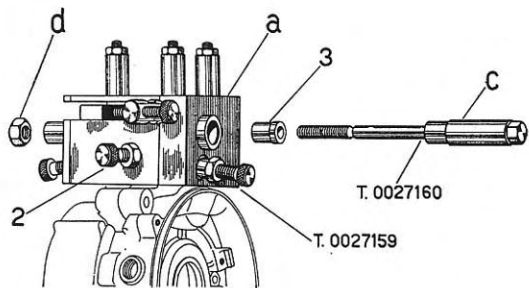

Fig. 36
1. Centre and secure the con-rod using the tool illustrated at Fig. 36. The operation is to be carried out as follows: